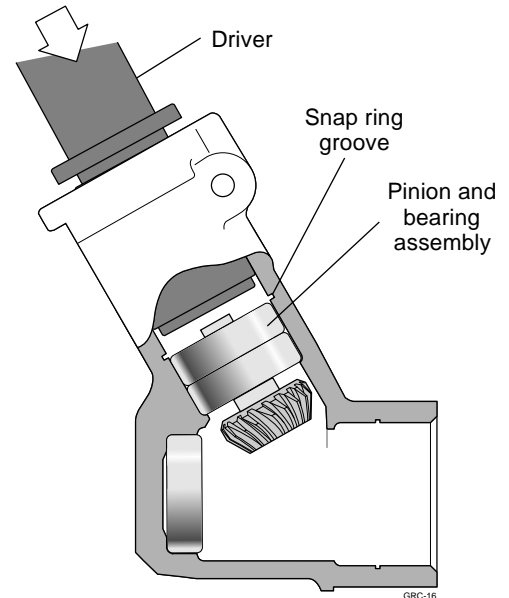

Figure 11.10 Installing the pinion and bearing assembly.
STEP 1. Hand-fit the pinion and bearing assembly into the gearcase input end, and use the appropriate driver to seat the assembly past the internal snap ring groove (Figure 11.10).